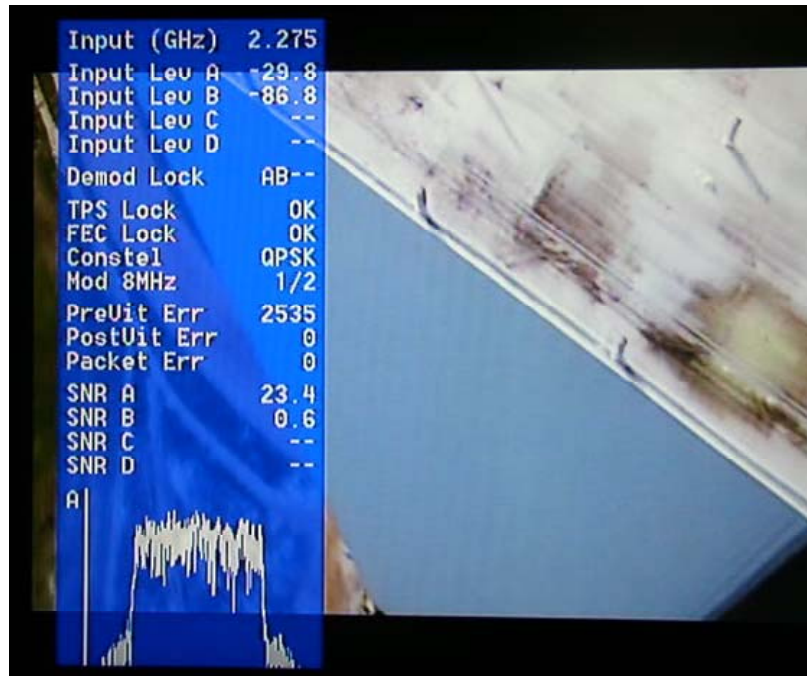

Figure 5 – VR-B OSD
- After approximately 5 seconds, the link should be established and video provided by the source should be displayed on the monitor (Figure 5).